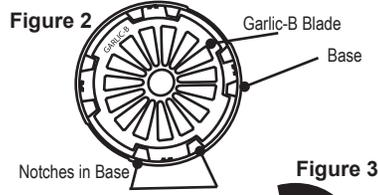

Figure 2
2. Insert the Garlic Blade labeled "GARLIC-B" (with the wording facing up) into the Base, turn so that the Blade rests onto the lowest notches in the Base (Figure 2).